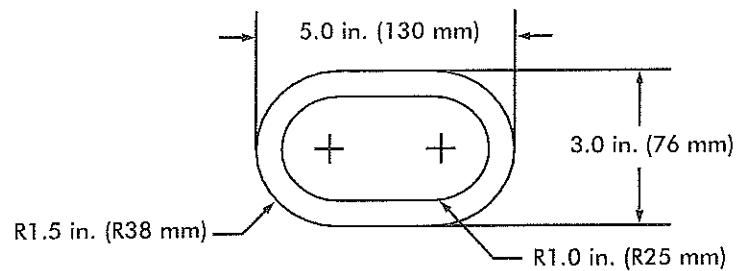
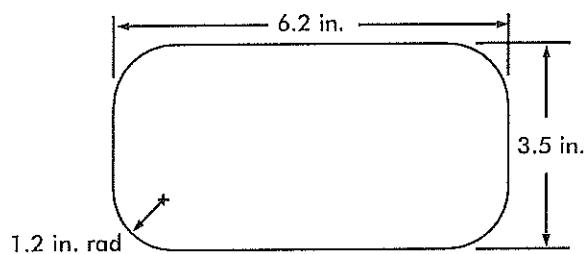

Figure B3. Toddler small torso template
Figure B4. Preschool- and school-age small torso template
The dimensions (see Figure B3 and Figure B4) of this template are based on the size of the torso of the smallest user at risk (5th percentile 6-month-old child for Figure B3 and 2-year-old child for Figure B4). If an opening is too small to admit the template, it is also too small to permit feet first entry by a child. Because children's heads are larger than their torsos, an opening that does not admit the small torso template will also prevent head first entry into an opening by a child.
Step 1: Select the appropriate small torso template based on the intended users of the playground (Figure B3 for toddler playgrounds, Figure B4 for preschool- and school-age playgrounds).
Step 1: Select the appropriate small torso template based on the intended users of the playground (Figure B3 for toddler playgrounds, Figure B4 for preschool-age and school-age playgrounds).